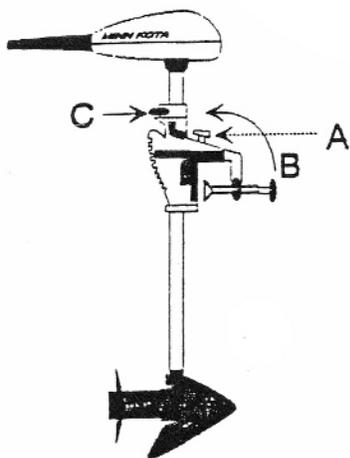

FIGURE 6
Step 3. Figure 6. press Tilt Lock Button "A" and hold. Pivot transom clamps upward "B" and release Tilt Lock Button.